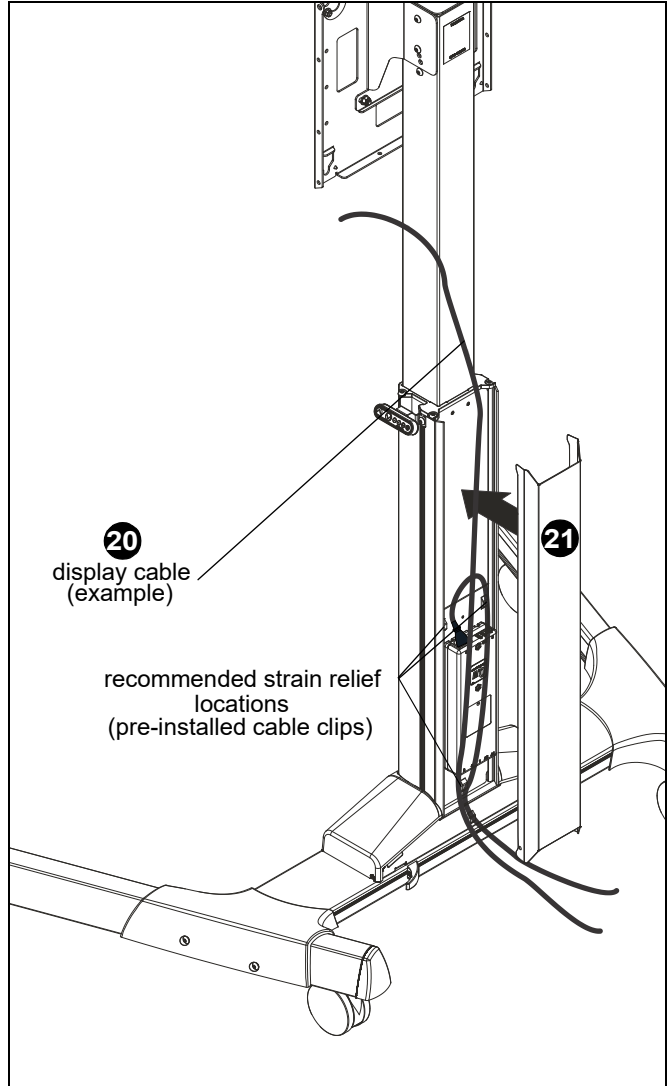

**Figure 10**
17. Plug in power cable (V) to outlet.
18. Press and hold "DOWN" button for three seconds to initialize lift mechanism. (See Figure 10)
19. Press and hold "UP" button until mount reaches it's maximum height. (See Figure 10)